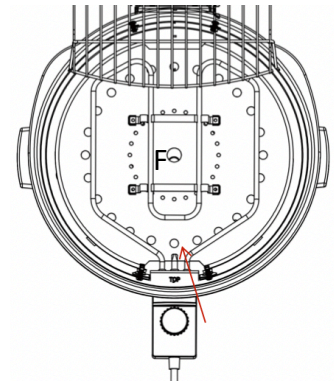

Fig. 3
**Hint:** The tip of the Temperature Control Thermostat Prong should be above the nearby punch hole on the Heat Reflector Plate when it is fully inserted. (Fig. 3, page 12).